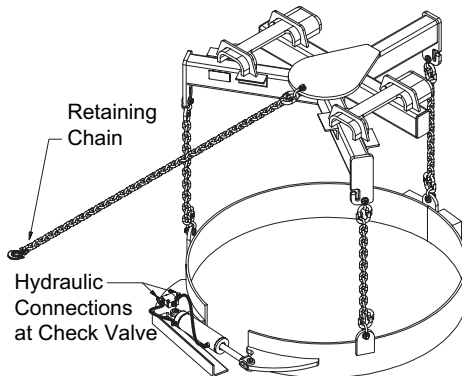

Figure 4-2, Hydraulic Connection
4. Install the lines from the truck's hydraulics to the hydraulic check valves of the attachment (Figure 4-2).